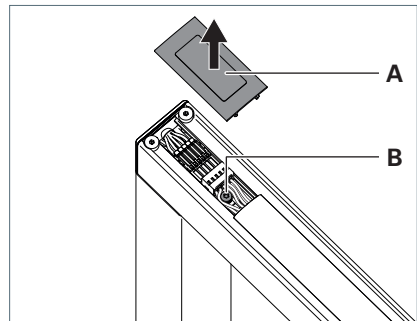

Fig. 6: Test points (DGUV V3).
- ▶ Remove cover **A**, see Fig. 6.